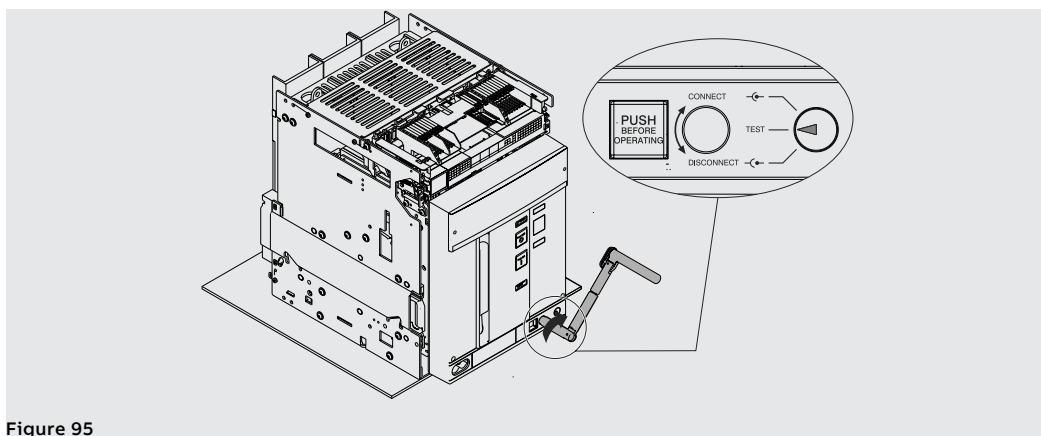

Figure 95
10. Turn the crank clockwise until the pushbutton comes out and the indicator shows that the circuit-breaker is in **TEST** position. See Figure 95.